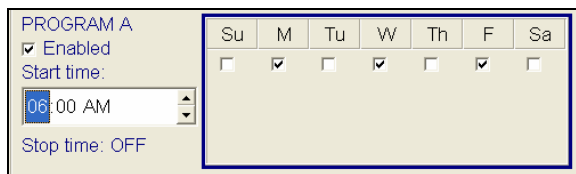

Figure 16.1.10D
- Click on the **Start time:** box and use the **UP** and **DOWN** arrows to set the time that you want this schedule to begin (Figure 16.1.10D).